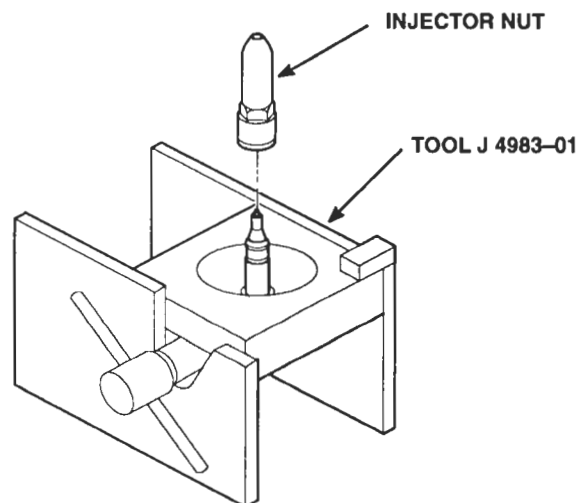

Figure 32. Tightening Injector Nut
20. Lubricate the threads in the injector nut and carefully thread the nut on the injector body by hand. Rotate the spray tip between your thumb and first finger while threading the nut on the injector body (Figure 32.)